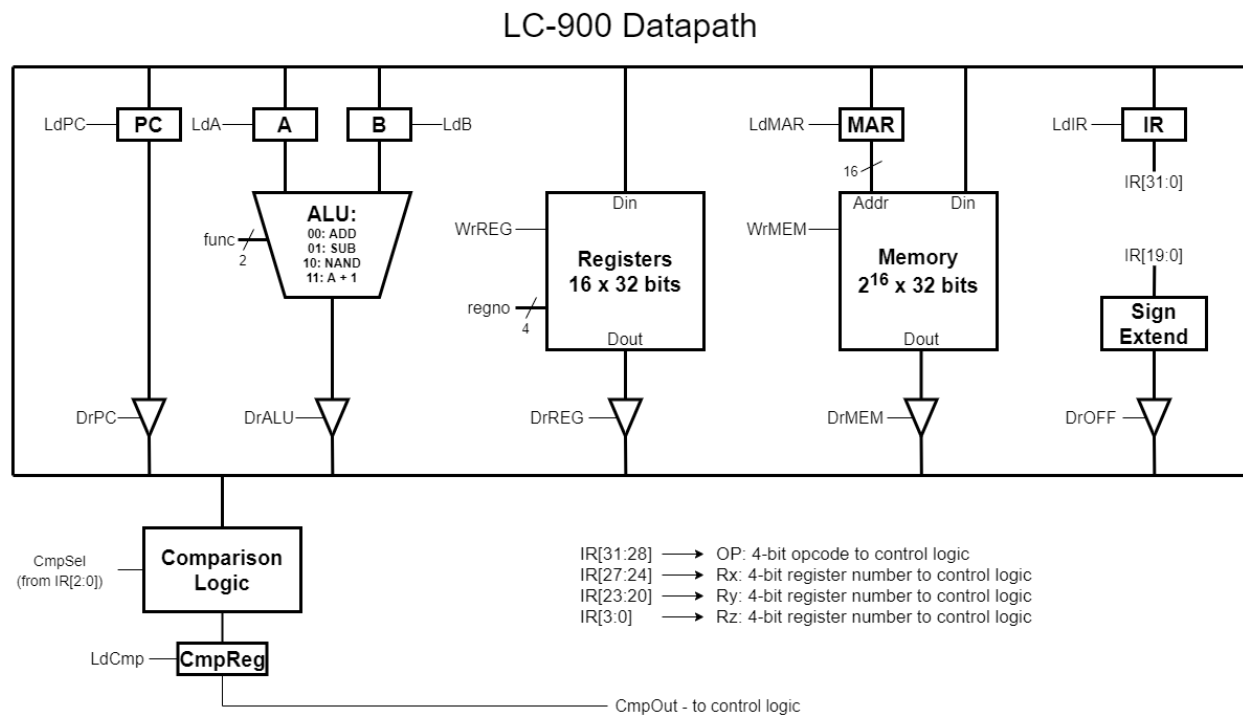

Figure 1: Datapath for the LC-900 Processor
2. Using CircuitSim, implement the LC-900 datapath. To do this, you will need to use the details of the LC-900 datapath defined in Appendix A: LC-900 Instruction Set Architecture. You should model your datapath on Figure 1.
The “comparison logic” box in Figure 1 is responsible for performing the comparison logic associated with the SKP instructions. The comparison logic should read the current value on the bus plus the mode bits (CmpSel) from the IR. When executing the SKP instructions, you should compute $A - B$ using the ALU. While this result of the ALU is being driven on the bus, the comparison logic should read the result $A - B$ and output a single “true” or “false” bit for the selected condition (CmpSel).
2. Implement the Microcontrol Unit using CircuitSim. The appendix contains all of the necessary information. Take note that the input and output signals on the schematics directly match the signals marked in the LC-900 datapath schematic (see Figure 1).
3. Connect the completed control unit to the datapath you implemented in Phase 1. Using Figures 1 and 2, connect the control signals to their appropriate spots.